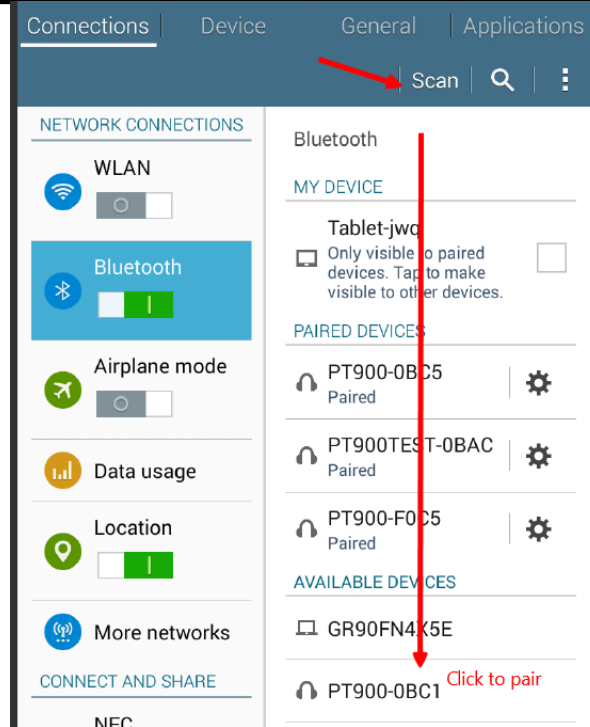

Figure 24: PT900 APP scan screen
- On the otherwise, if the user prefers to connect the actual device, please click **Scan**, and all the available devices will be searched via BLUETOOTH and displayed as figure 24.